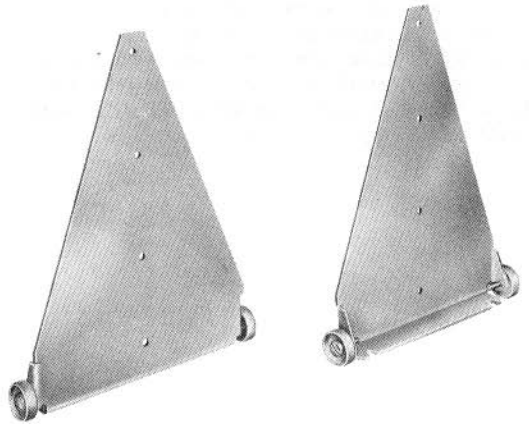

Fig. 49—Bracket Assembly per ED-69366-50, Group 2
10.05 The bracket assembly per ED-69366-50, Group 2 (Fig. 49) has two wheel-equipped support plates needed to install a 26A apparatus mounting on the floor or in the floor-supported cabinet per ED-69366-50, Group 1. Eight RHM screws are furnished with the assembly. Nylon wheels are replaceable as Simmons Fastener Corp. Springlock Roller Assembly G-1300A-1343.